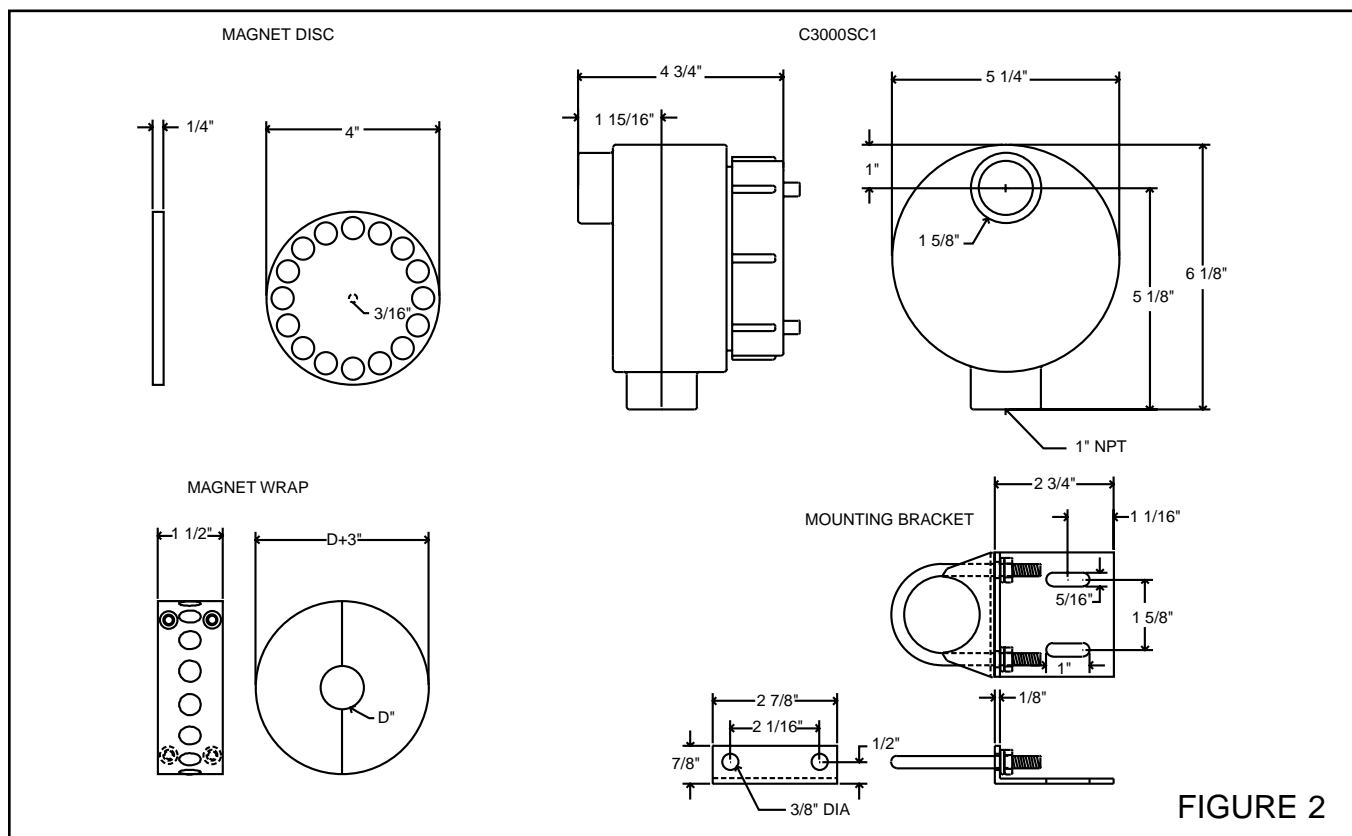

FIGURE 2
- 4.1 The C3000SC-1 signal transmitter enclosure is UL/CSA listed and certified for Class I, Div. 1 & 2, Group D. Class II, Div. 1 & 2, Group E, F, & G. Class III. (see figure 2, page 4)